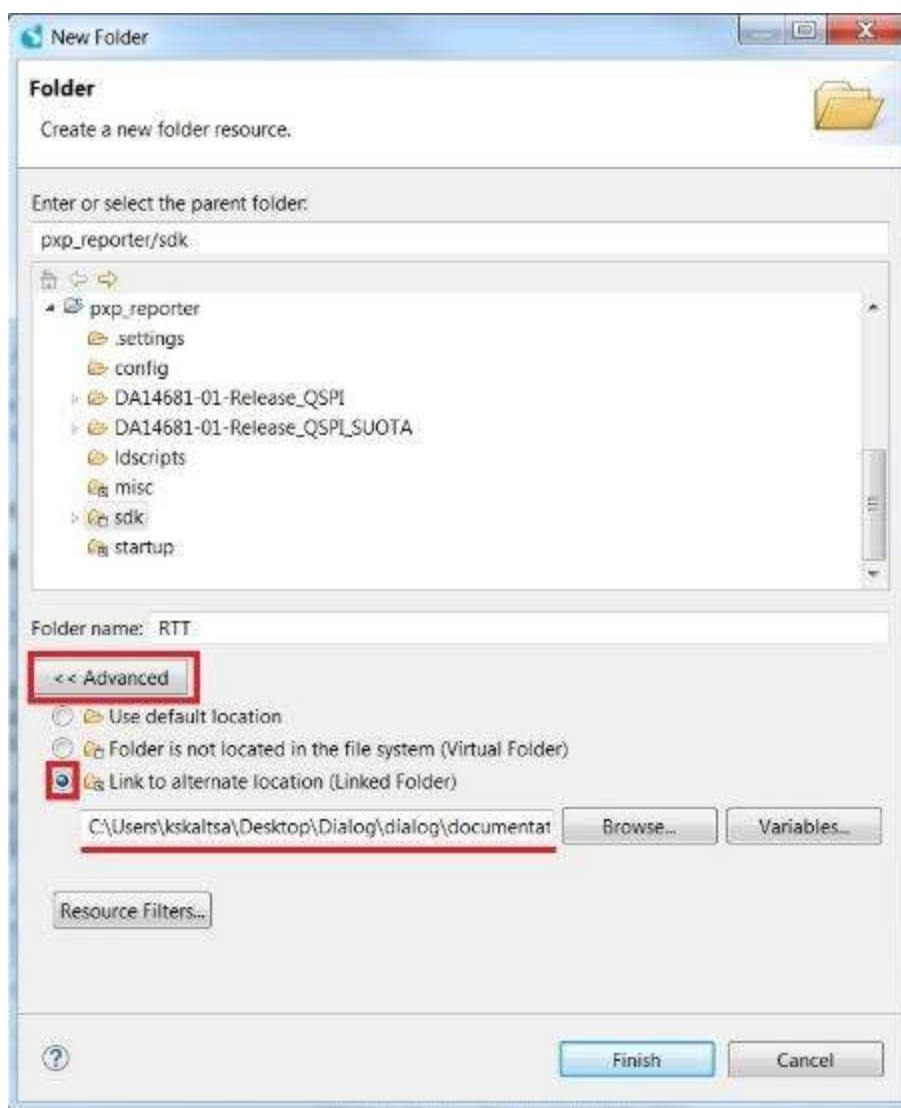

Figure 93: Select the Linker Folder
3. In the pop-up window select: **Advanced > "Link to alternate location" > Browse...** and select the <sdk\_root\_directory>\sdk\middleware\segger\_tools folder as shown in Figure 93.